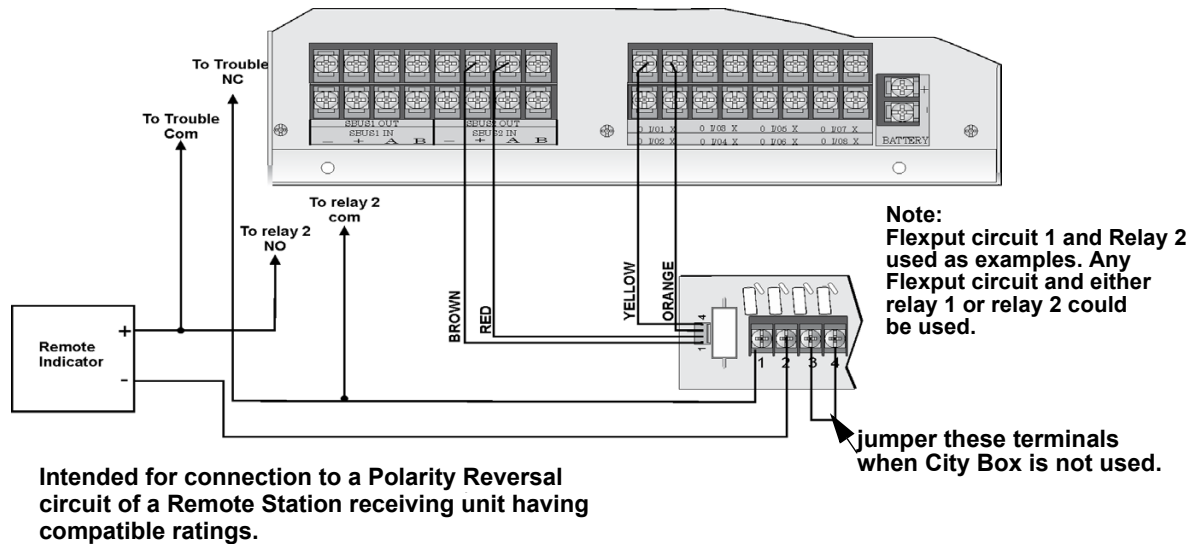

Figure 4.59 Polarity Reversal Connection Using the 5220 Module
2. Wire the 5220 to the control panel using the four-wire pigtail provided as shown in Figure 4.59. This diagram also shows how to connect the 5220 to the remote indicator. Do not install an EOL resistor in the terminals of the Flexput circuit used for this application.